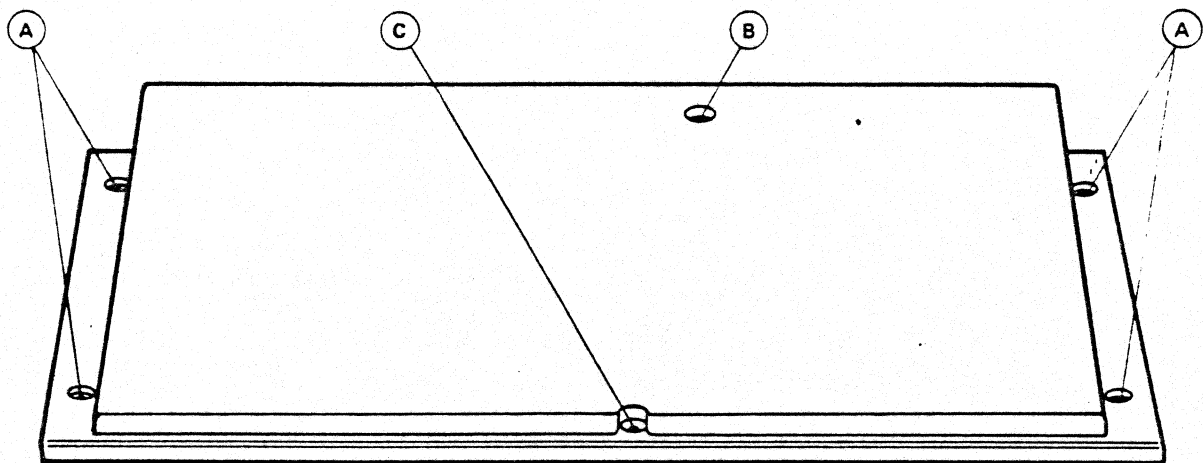

Figure 5-8. Keyboard Cover Disassembly
3. Remove the 6 screws (see figure 5-8).
2. Start the 2 center screws ('C' and 'B' in figure 5-8).
Be sure to use the correct screws as shown in figure 5-8. Using the wrong screws may damage the covers. Do not overtighten the screws.